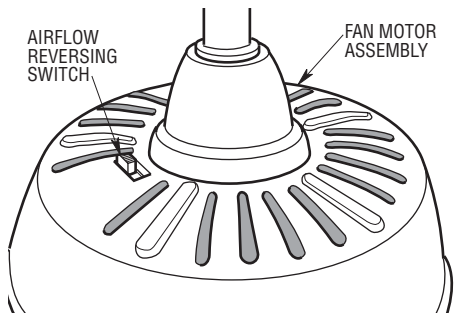

Figure 20
- 3. If airflow is desired in the opposite direction, turn the fan off and wait for the blades to stop turning. Then slide the reversing switch, located on top of the fan motor assembly, to the opposite position (Figure 20) and turn the fan on again. The blades will turn in the opposite direction and reverse the airflow.